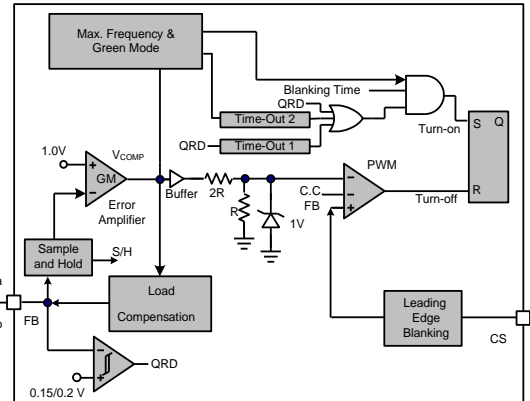

Fig. 18
The LD7516C employs quasi-resonant (QR) switching scheme to switch in valley-mode either in CV or CC operation. This will greatly reduce the switching loss and the ratio  $dv/dt$  in the entire operating range for the power supply. Fig. 18 shows the typical QR detection block. The QR detection block will detect auxiliary winding signal to drive MOS as FB pin voltage drops to 0.15V. The QR comparator will not activate if FB pin voltage remains above 0.2V.